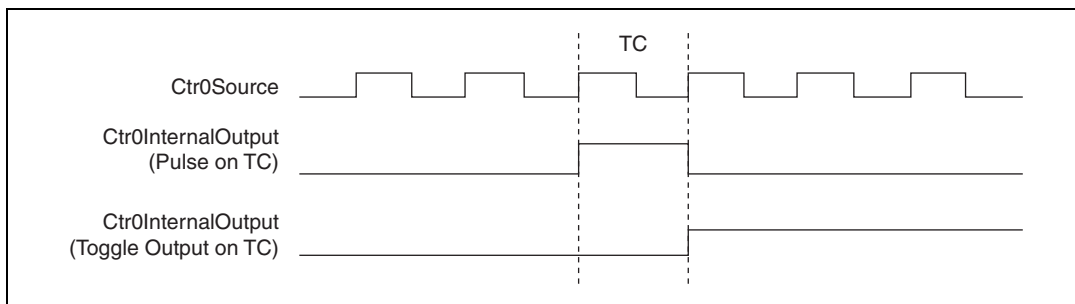

Figure 5-9. Ctr1InternalOutput Signal Behavior
The Counter 1 Internal Output (Ctr1InternalOutput) signal is the output of Counter 1. This signal reflects the terminal count (TC) of Counter 1. The counter generates a terminal count when its count value rolls over. The two software-selectable output options are pulse on TC and toggle output polarity on TC. The output polarity is software-selectable for both options. Figure 5-9 shows the behavior of the Ctr1InternalOutput signal.